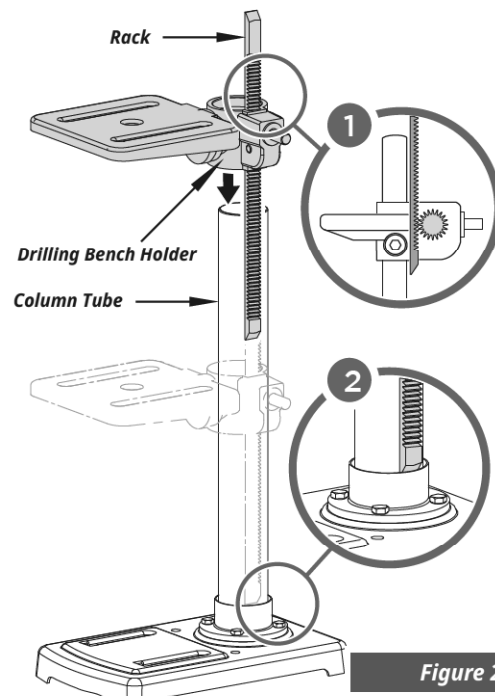

Figure 2
1. Place the drilling bench holder over the rack. The teeth of rack must mesh with the teeth of gear. (See Figure 2 illustration 1)
2. Slide the drilling bench on the column tube. Make sure the bottom bevel of rack insert into the bottom disc of the column tube. (See Figure 2 illustration 2)